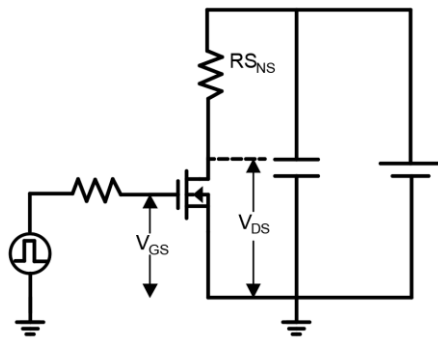

Figure 15. Dynamic $R_{DS(on)eff}$ Test Circuit
C. Dynamic on-resistance; see Figure 15 and 16 for test circuit and configurations